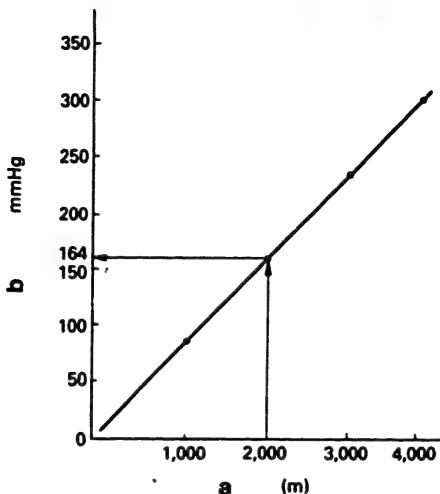

Fig. 88
1. Because the specified values are not prepared for each altitude, obtain the negative pressure by plotting it from the appropriate altitude in Fig. 88. For example, the atmospheric pressure at an altitude of 2,000 m is 164 mmHg of negative pressure.